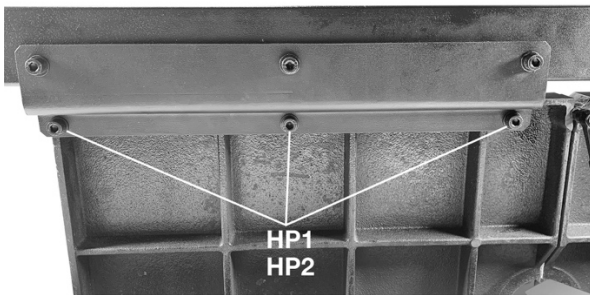

Figure 5-19
2. Attach guide rail assembly to table using three socket head cap screws and 8mm washers (HP1 & HP2, see Figure 5-19). Tighten screws firmly.